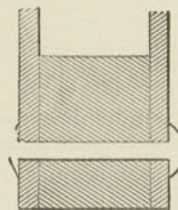
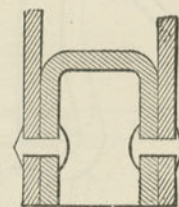

Fig. 53. Solid Mud-Ring.
Fig. 54. Flanged Mud-Ring.
A. Instead of the solid mud-ring as in Fig. 53, there may be a boiler-plate ring flanged over so as to have a section as in Fig. 54, with both the inner and the outer sheets riveted thereto.